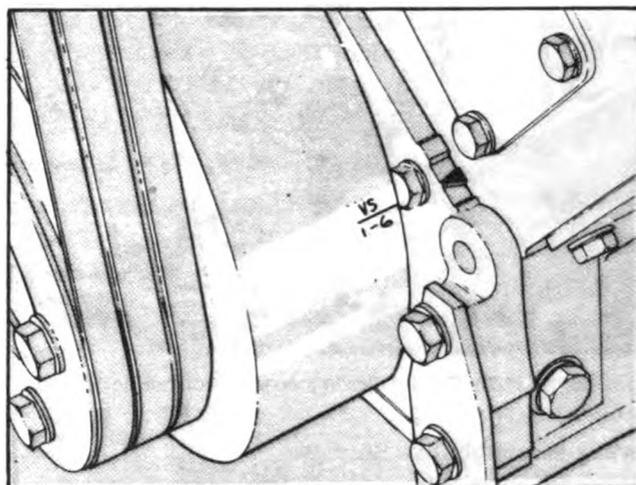
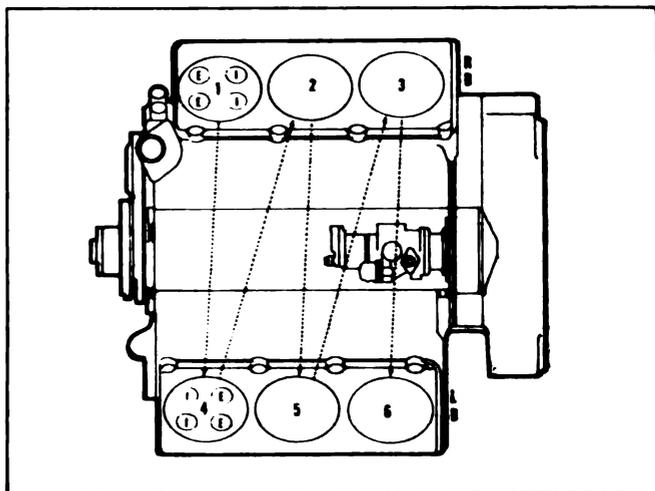
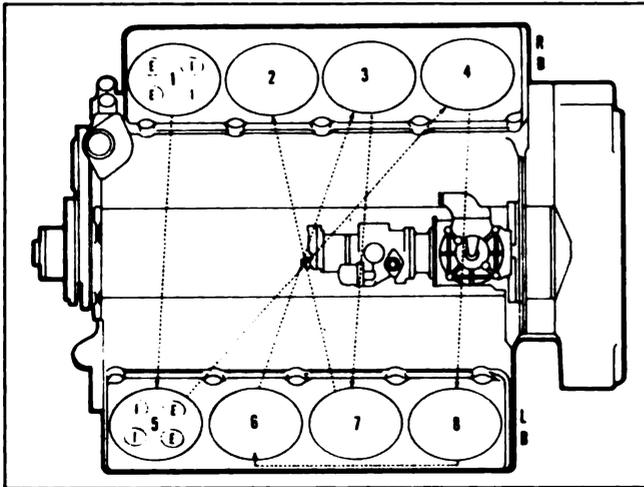

Fig. 2-28. (OM1035L). Valve set marks—V/VT-555, C.I.D. Engine
Fig. 2-29. (V11461). V6 firing order
Fig. 2-30. (V11462). V8 firing order
1. Turn the crankshaft in direction of rotation until No. 1 “VS” mark appears on the vibration damper or crankshaft pulley. See Fig. 2-28 for the location of the valve set marks. In this position, both intake and exhaust valves must be closed for cylinder No. 1; if not, advance the crankshaft one revolution. See Fig. 2-29, Fig. 2-30 and Table 2-5 for firing order.